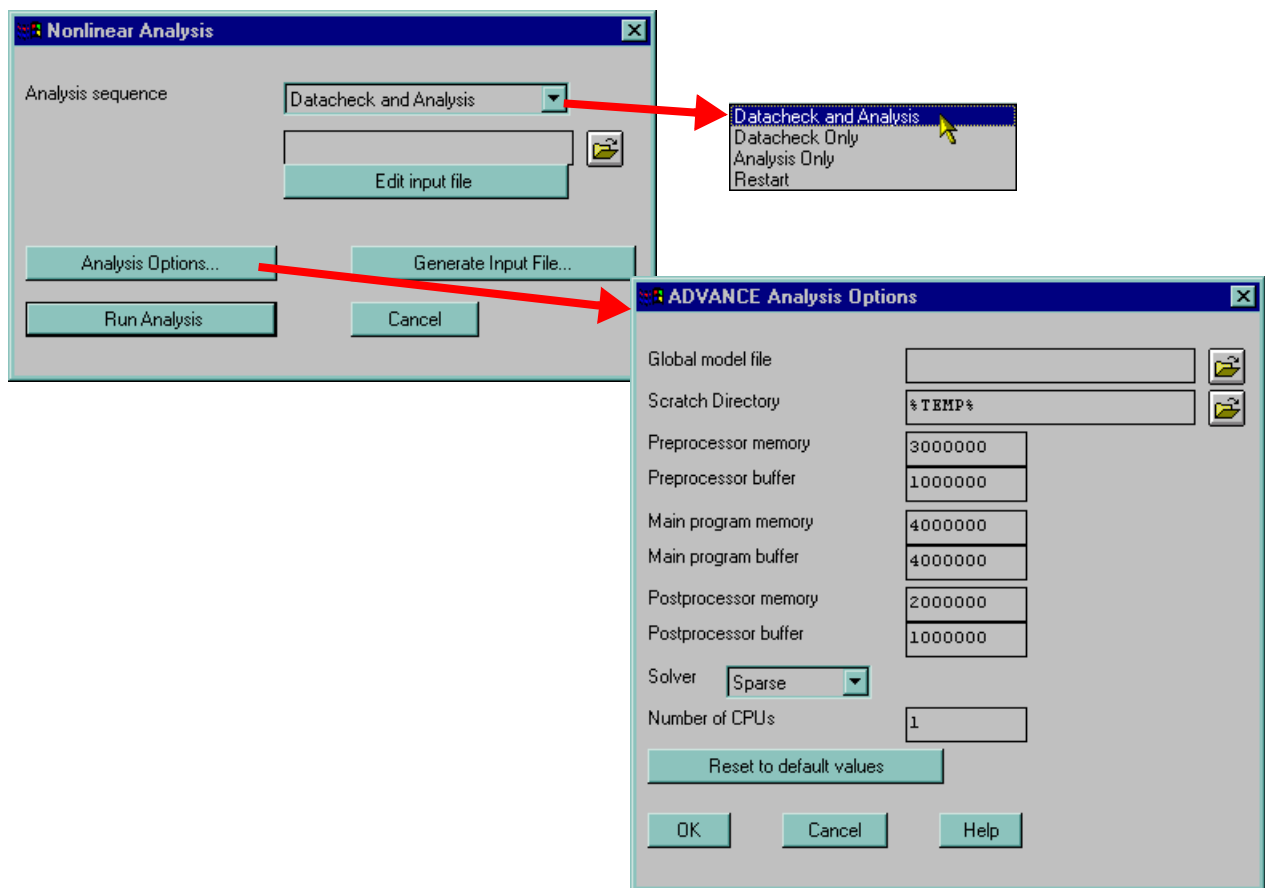

Figure 3.19 Nonlinear structural analysis, running Advance
- **Nonlinear Analysis** — opens the dialog box shown in Figure 3.19 for running Advance. Choose between generating Advance input from an Input Interface File by clicking **Generate input file** — which opens the dialog box shown in Figure 3.18 explained in the above item — and specifying an Advance input file in the edit box. There are four analysis sequences available: